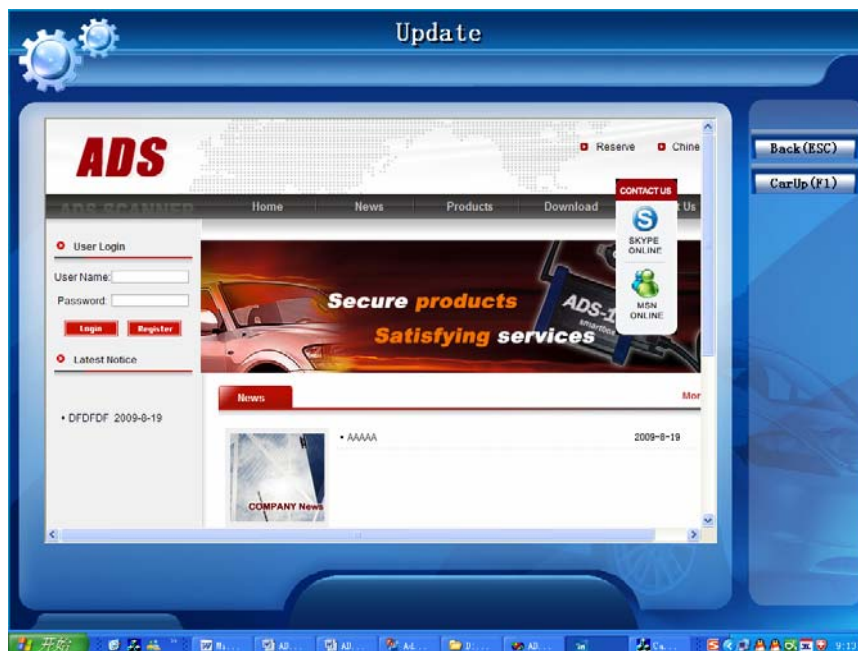

Figure-39
39. Click “Update”, appears figure-39.